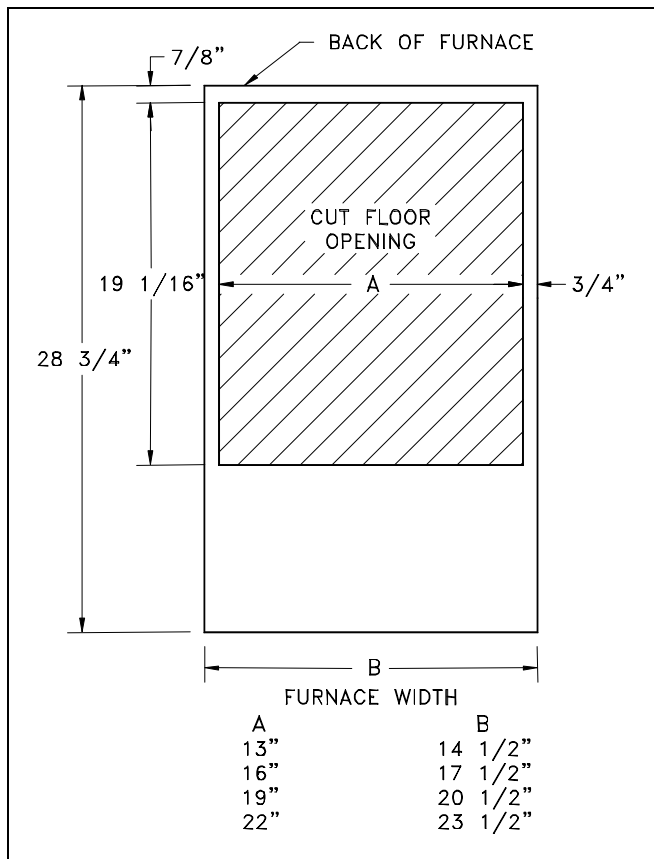

Figure 6. Downflow Floor Opening.
- Downflow position is approved for installation on wood flooring when installed with Combustible Floor Base part number 4024400. Read installation instructions packaged with combustible floor base to correctly install. See Figures 6 and 7 for rough-in dimensions.